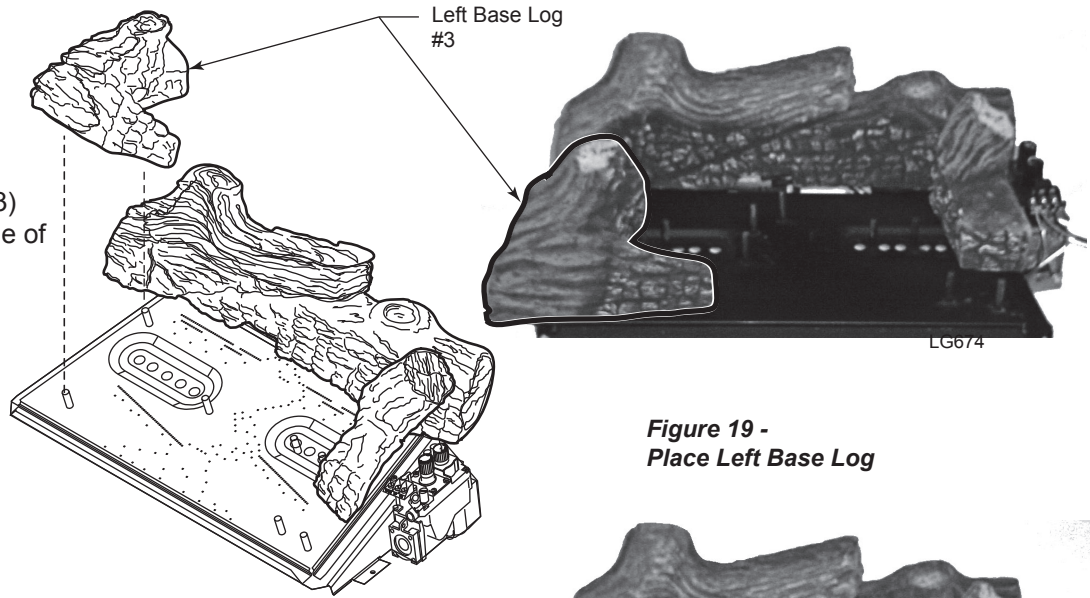

Figure 19 - Place Left Base Log
- 3. Place left base log (#3) on two pins on left side of grate. *Figure 19*